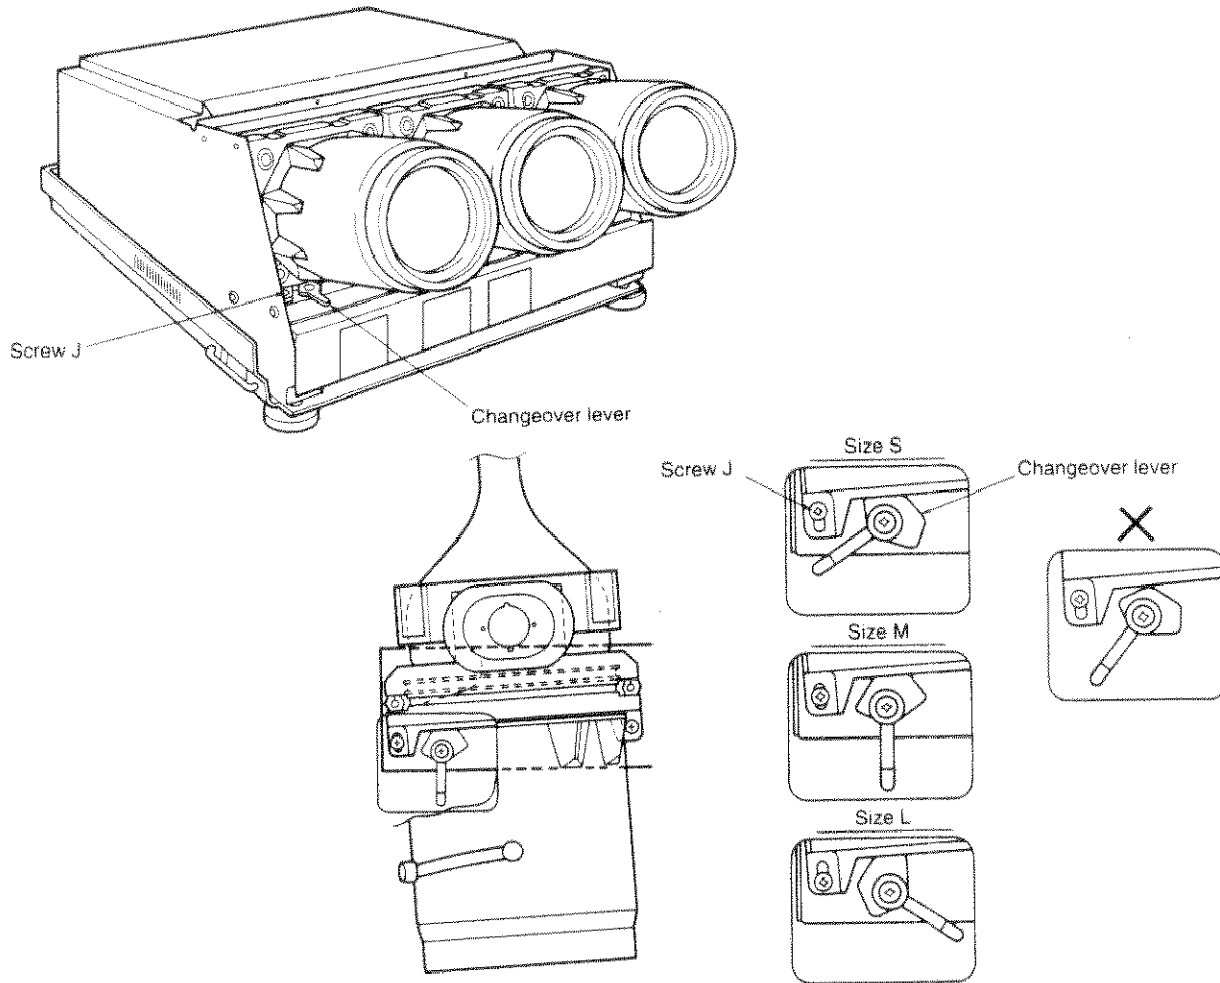

Fig. 3 Change of concentrating angle
- (1) Loosen lower outside screw J of the lens unit B (don't remove).
- (2) Change the changeover lever according to the desired screen size as shown in Fig. 3.
- (3) Tighten screw J loosened in (1).
- (4) Change the concentrating angle also in lens unit R.